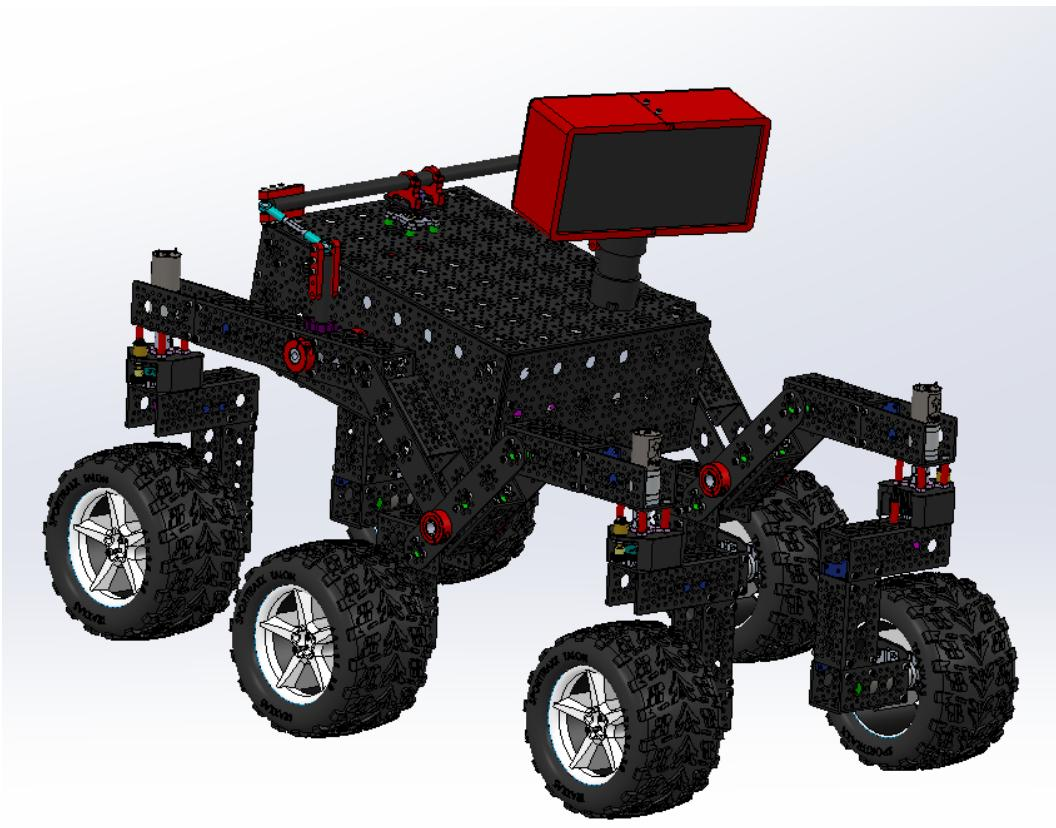

Figure 11: Final Mechanical Rover
9. **Checkpoint:** Your rover should now be fully assembled! Verify that your rover looks like the rover in Figure 11.